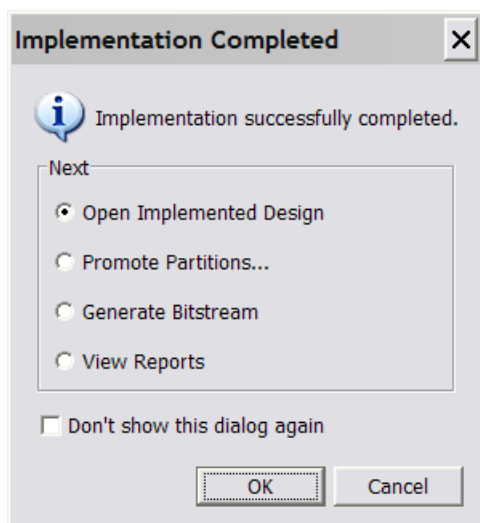

Figure 20: Implementation Completed Dialog Box
- 3-1-1. Once the implementation completes, the Implementation Completed dialog box appears, providing several choices (Figure 20).